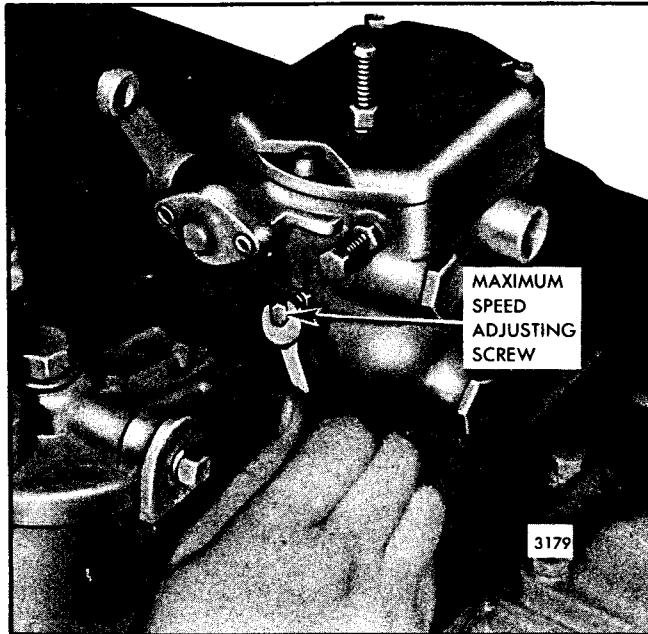

Fig. 11 - Adjusting Maximum No-Load Engine Speed
2. Turn the maximum speed adjusting screw (Fig. 11) in until the screw contacts the throttle linkage internally, limiting the maximum speed of the engine at 8% above the rated full-load speed.